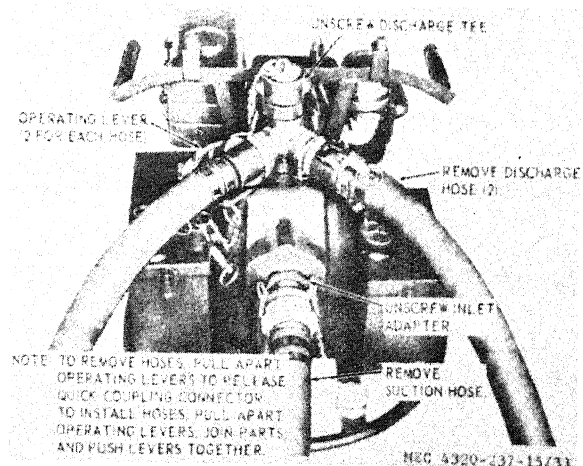

Figure 33. Hoses and fittings, removal and installation.
a. *Removal.* Refer to figure 33 and remove the hoses and fittings.
- (1) Flush the hoses with an approved cleaning solvent which will not attack the rubber material from which they are fabricated. Wipe the exterior of the hoses with a cloth dampened with an approved cleaning solvent. Clean all fittings by immersing in solvent.
- (2) Inspect the suction hoses for cracks, leaks, signs of deterioration, worn or damaged fittings, collapsed walls, and other damage.